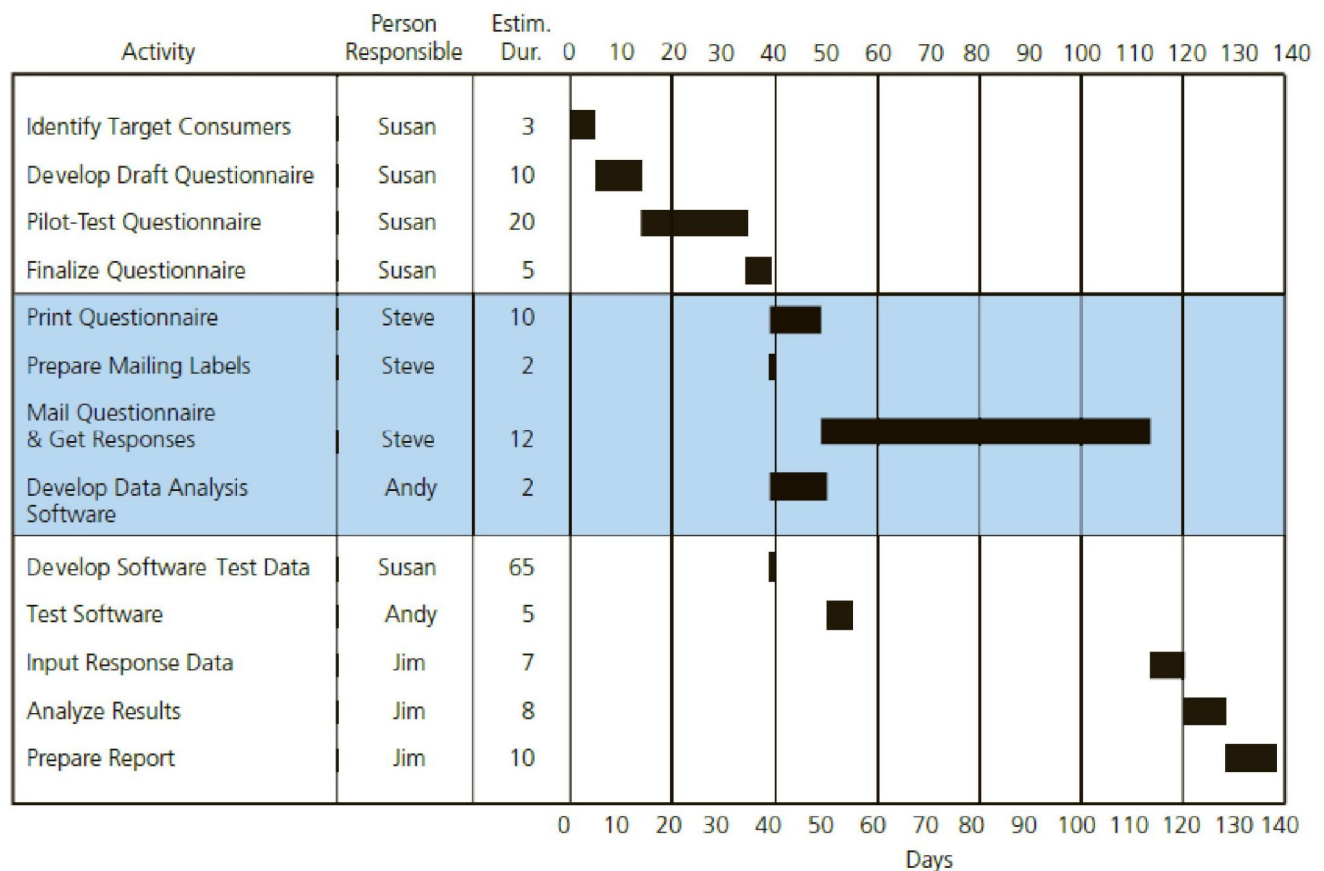

FIGURE 5.12 Bar Chart for Consumer Market Study Project
- Figure 5.12 depicts a bar chart for the consumer market study project.